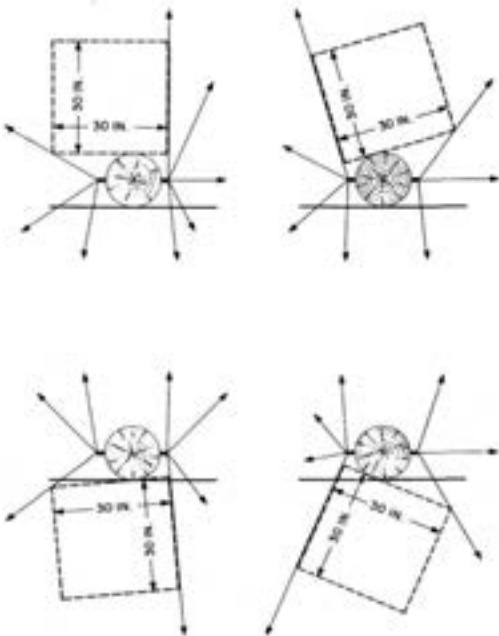

Fig. 4—Climbing Space When Drops are Attached Directly to Pole
- 3.05** When drop wire attachments are made directly to a joint use pole, distribute from the face or back of the pole (Fig. 4).